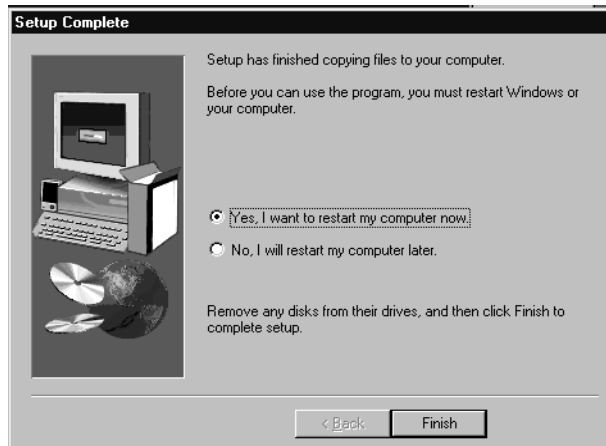

Figure 2-9. Setup Complete Screen
- 12 Click **Yes** to view the ReadMe file or click **No** to view the Setup Complete screen as shown in Figure 2-9.